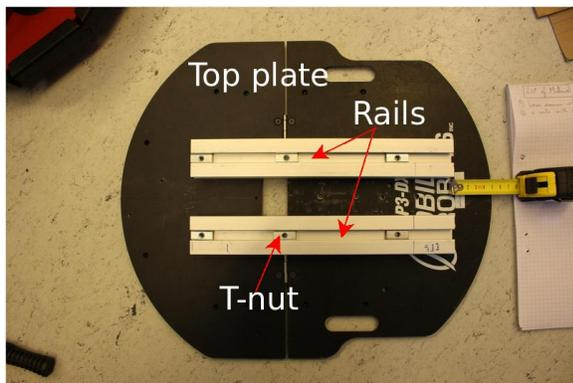
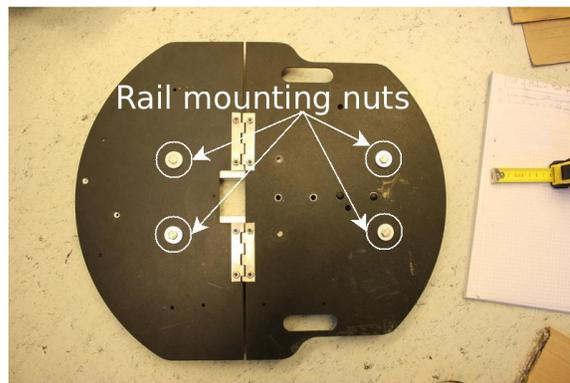

Figure 3: Rails on top plate (top view of top plate)
Figure 4: Rail mounting screws (bottom view of top plate)
2. The two rails are on the top surface of the plate (figure 3). They are mounted with four set screws (screws with hexagonal heads) on the bottom surface (figure 4). Loosen these set screws till both the rails can be jigged around.